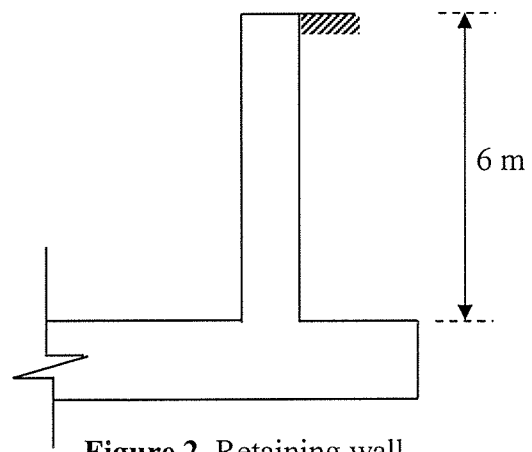

Figure 2. Retaining wall
- b. A cantilever retaining wall of an open tunnel is shown in **Figure 2**. Density of soil beside the wall is 1800 kg/m^3 , active soil pressure coefficient is 0.3, soil is saturated with water (void ratio of the soil is 30%). Deflection of the wall is required to be controlled. Apply the concept to design the wall with optimal thickness in accordance to BNBC 2020. Concrete strength (f_c') could be used as 25 N/mm^2 .